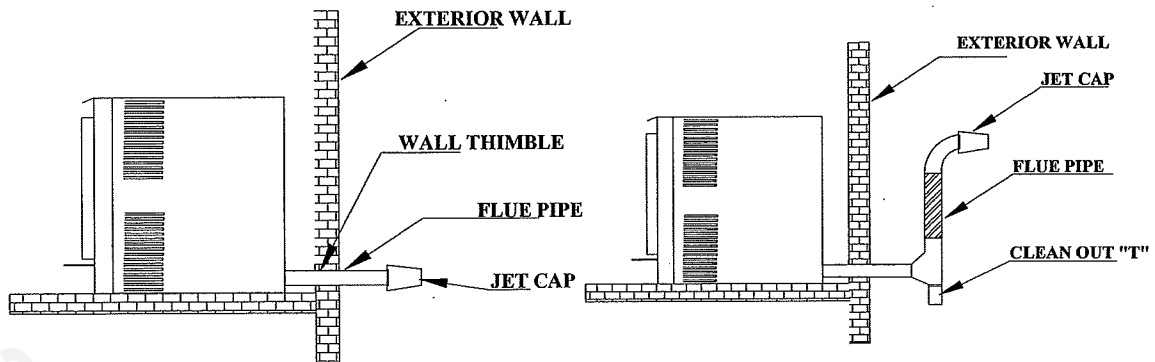

FIGURE 2: HORIZONTAL VENT PIPE (2 options)
6. The NPS-1000 is designed to accept installations using a horizontal flue pipe through an exterior vertical wall. A horizontal flue pipe installation should be a minimum of 24" from pellet stove pipe to flue cap connection. FIGURE 2 shows a through the wall exterior flue pipe installation.